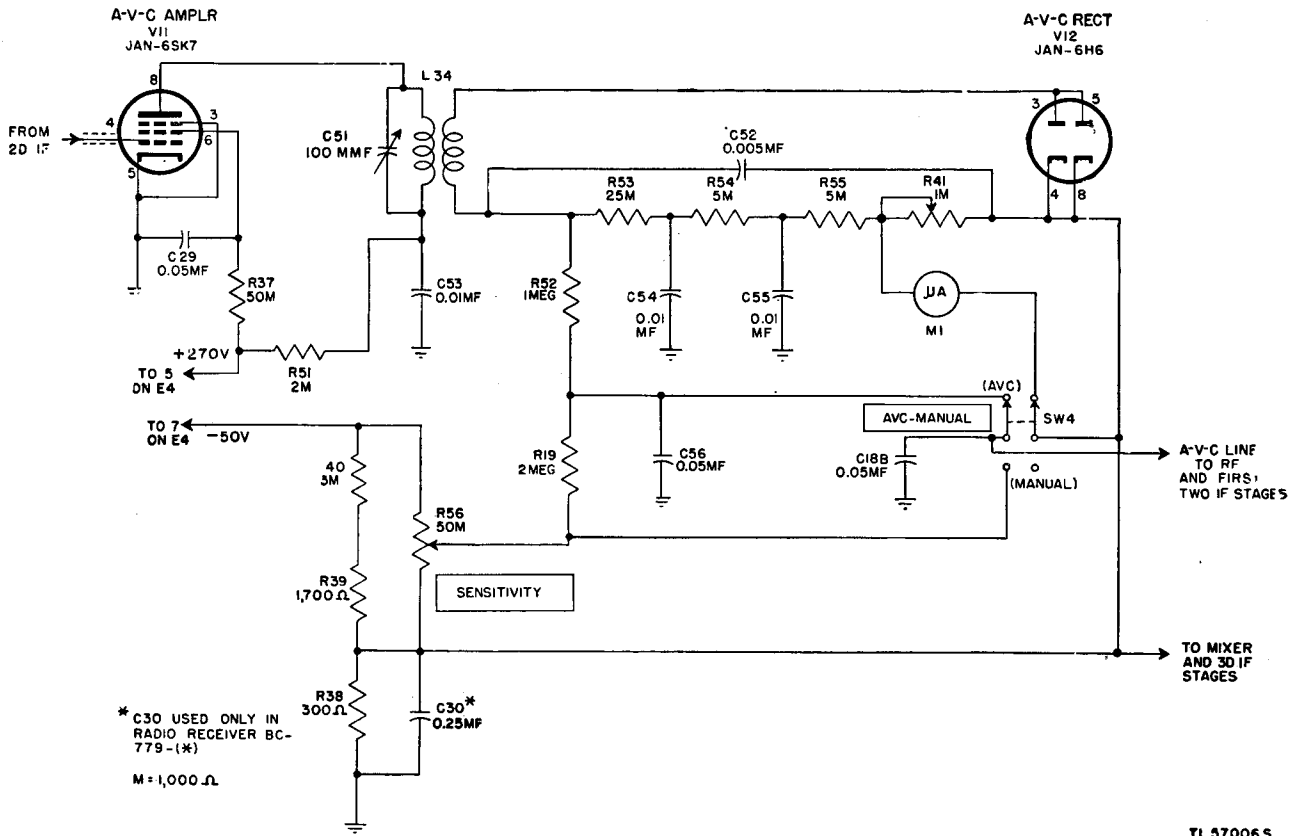

Figure 31. Radio Receiver BC-779-B, functional diagram of a-v-c stages.
a. MIXER TUBE JAN-6L7. For simplicity, capacitor C71, main tuning ganged capacitor C1C, and band spread ganged capacitor C2C are represented as a single variable capacitor C across the inductance trimmed secondary of r-f transformer L18. Signal voltages across C are applied through 600-mmf capacitor C11 to signal grid G1 (top cap) of pentagrid mixer Tube JAN-6L7. Fixed bias from the voltage divider (fig. 31) is applied through a filter circuit (10,000-ohm resistor R10 and 0.01-mf capacitor C12) and 500,000-ohm grid resistor R9 to the signal grid. Screen grid G2 and G4 (pin 4) forms a screen about injection grid G3 (pin 5), and the h-f oscillator output is coupled through 95-mmf capacitor C13 to the injection grid. Since the screen grid shields the signal and injection grids from one another, the tube electron stream is modulated independently by the r-f and oscillator signals. Heterodyne action produces sum and difference frequencies in the mixer output. The primary of transformer T1 is tuned by C21 to the 465-kc *difference* frequency to which the i-f amplifier is also tuned. The i-f voltage across the secondary winding of transformer T1 is applied to the crystal filter.
65. A-V-C Circuit (fig. 31)
and to the control grid (pin 4) of the a-v-c amplifier stage V11 (fig. 31). V7 and V11 have a common grid circuit, including fixed bias. The suppressor and cathode of V11 are grounded; screen voltage is applied to pin 6 through 50,000-ohm series-dropping resistor R37; and the screen is bypassed by 0.05-mf capacitor C29. Plate (pin 8) voltage is applied through 2,000-ohm filter resistor R51 and the primary of transformer L34. The primary of L34 is tuned to 465 kc by 100-mmf capacitor C51, and capacitor C53 (0.01-mf) bypasses high frequencies to ground. The transformer secondary is untuned.